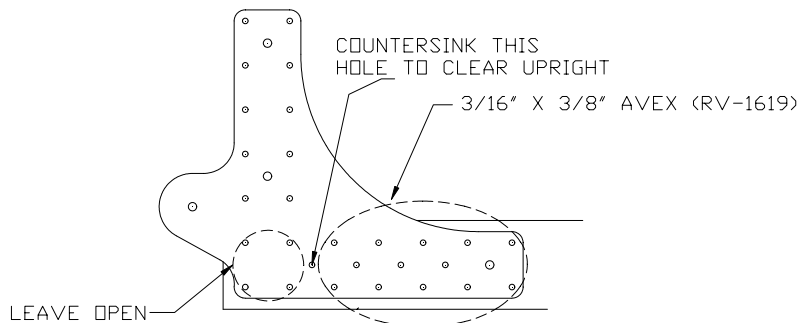

Figure 9.5.3
- 3) Disassemble, debur, chromate and rivet (RV-1619 and RV-4621). Figure 9.5.3.